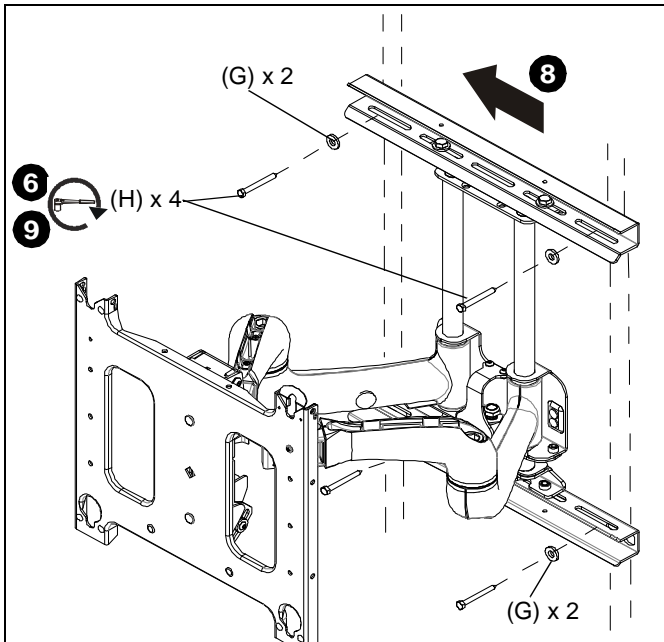

Figure 3
6. Install two 5/16" x 2-1/2" lag bolts (H) and two .850x.385x.135" washers (G), through mounting holes in upper wall channel and into pilot holes. DO NOT tighten at this time. (See Figure 3)
8. Adjust mount lateral position left until lag bolts are seated in mounting slots in upper wall channel. (See Figure 3)
9. Install two 5/16" x 2-1/2" lag bolts (H) and two .850x.385x.135" washers (G), through mounting holes in lower wall channel and into pilot holes. (See Figure 3)